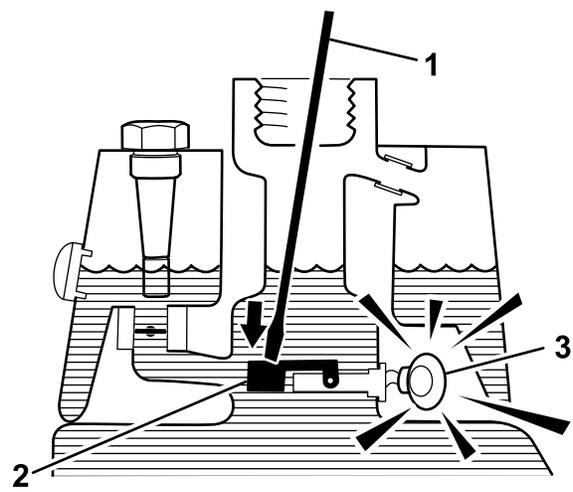

Figure 54
3. Insert a clean rod or screwdriver into the tank neck and gently push down on the switch float (Figure 54); the alarm should sound after the 1-second delay.